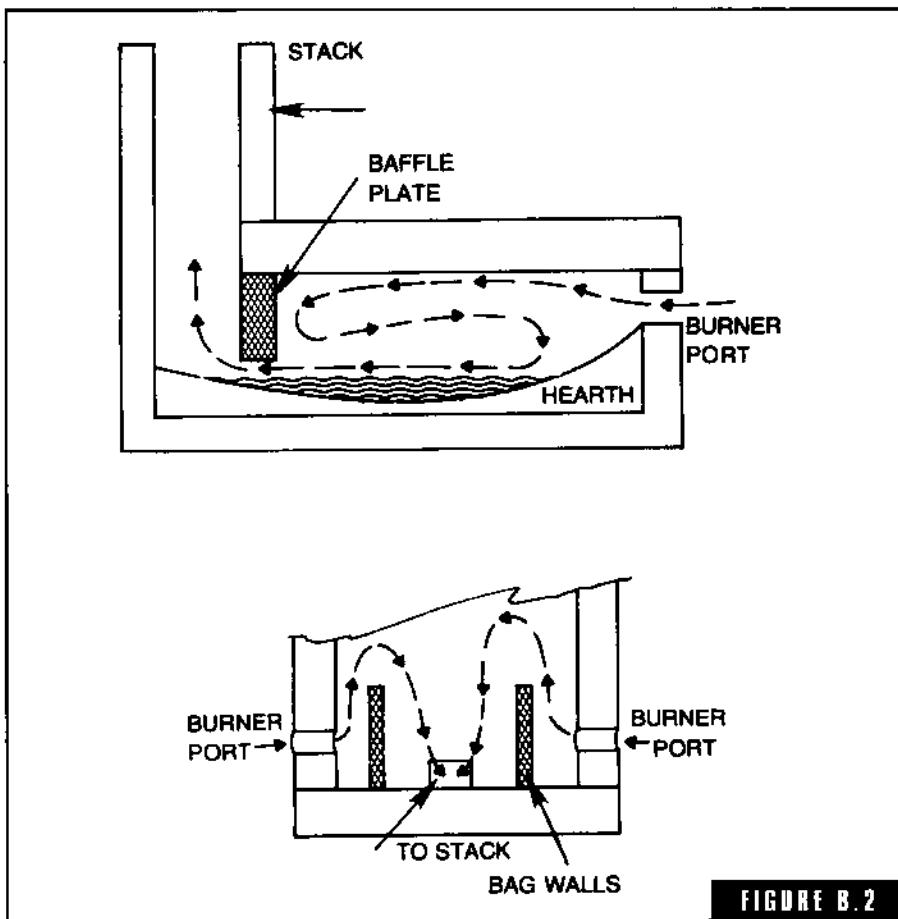

FIGURE B.2
**baffle plate furnace** A refractory wall in a fire box or furnace to deflect or change the direction of the flame (Fig. B-2). It is also called a *bag wall* or arch baffle. In a reverberatory furnace it is installed at the far end just before the stack, causing the flame to swing back toward the burner or reverberate. In down-draft kilns it directs the flame and